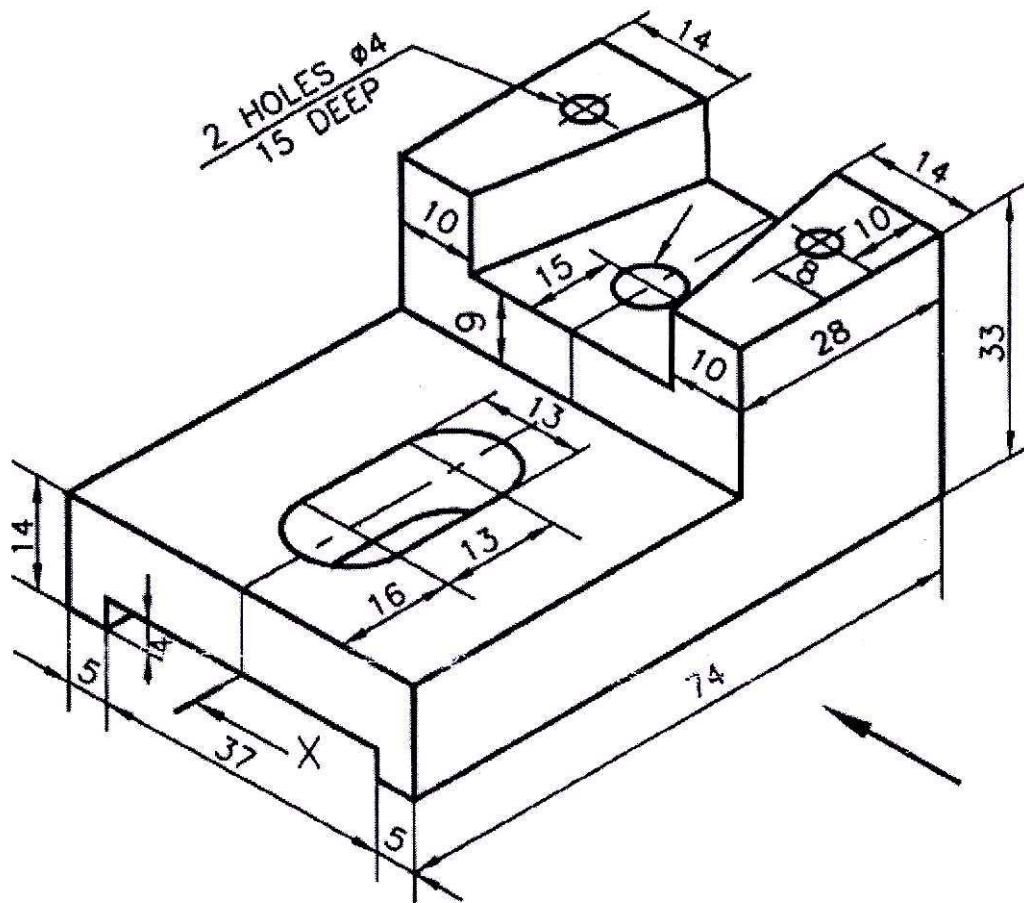

Fig. 1
3. Fig. 1 shows a pictorial view of an object. Draw the following views to full scale by using First Angle Method of projection.